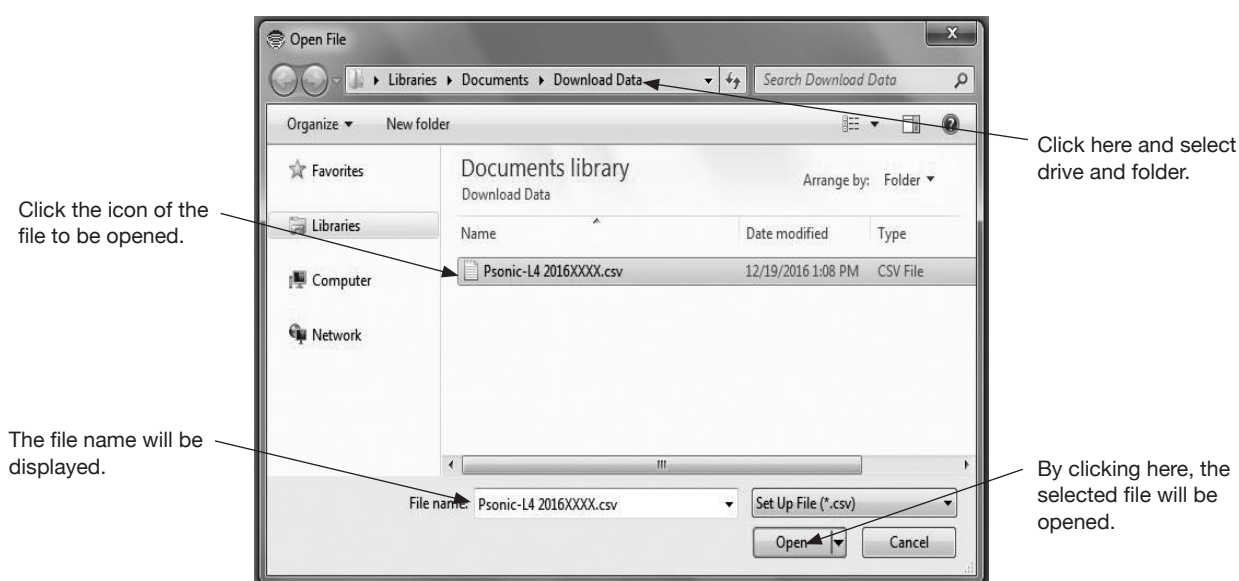

Fig. 3-84
- (1) Click "File (F)" from the menu, and then click on "Open File (O)" from the drop-down list of "Database (F)".
- (2) The common dialog box (Fig. 3-84) will be displayed. Select the drive and folder where the file to be opened is stored from the drop-down list.
- (3) Select the file you want to open from the displayed files. Verify "File name (N)" and click "Open (O)" button. Click "Cancel" button to exit the operation without opening the file.